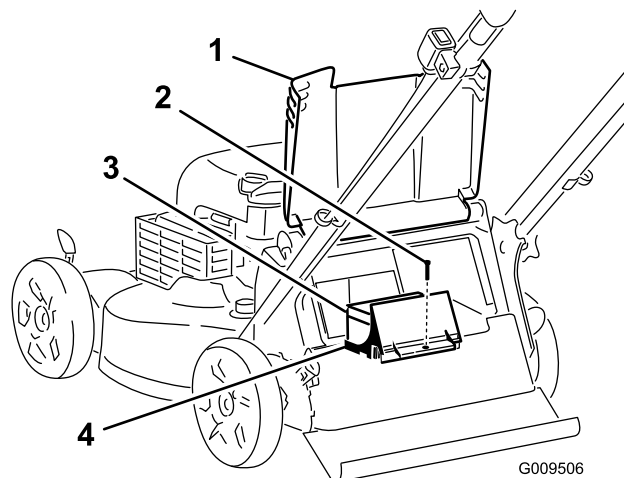

Figure 27
1. Raise the rear deflector and locate the battery compartment (Figure 27).